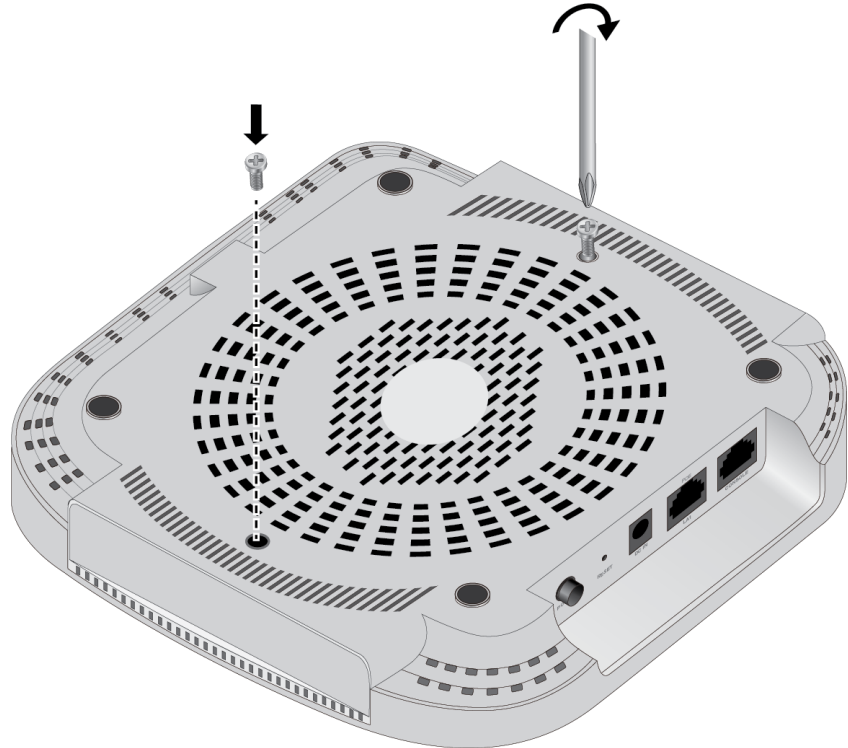

Figure 7. Attaching the Bracket Screws to Wireless Access Point
1. Install the two screws (provided) in the bottom side of the access point chassis. Leave the screws loose enough so that you can slide the bracket under the screw heads. Refer to Figure 7.